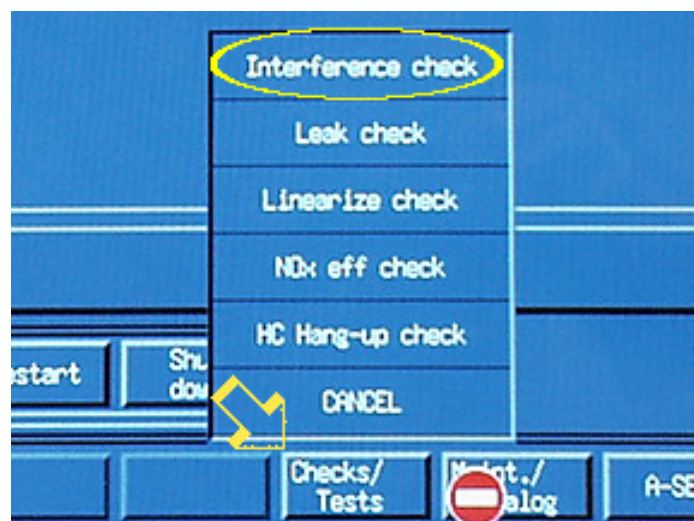

Figure 4
- 106 Click on the “Checks/Tests” button in the command area of the screen. See arrow in Figure 4. From the menu items that appear above the button, click on “Interference Check.” See the circle in Figure 4.